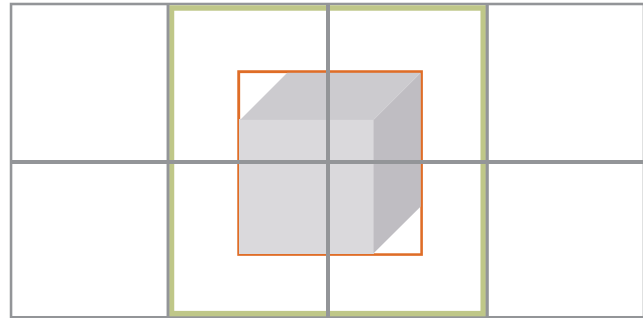

Figure 2: Screen Space Bounding Box (Orange), Sampled Pixels (Green).
2. Determine the maximum screen space width or height of the bounding box (represented by the red box in Figure 2), taking the maximum value calculate the mip level to sample from so that the object takes up no more than a two pixel square region [the green box in Figure 2]. This value can be calculated using, $\text{ceil}(\log_2(\text{max_screen_size}))$.
5. Store a float in a writable buffer representing visible (1) or not visible (0).